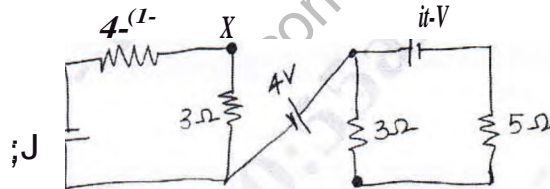

Fig.Q.2(b)
b. Find the potential difference between XY for the network shown below Fig.Q.2(b). (06 Marks)